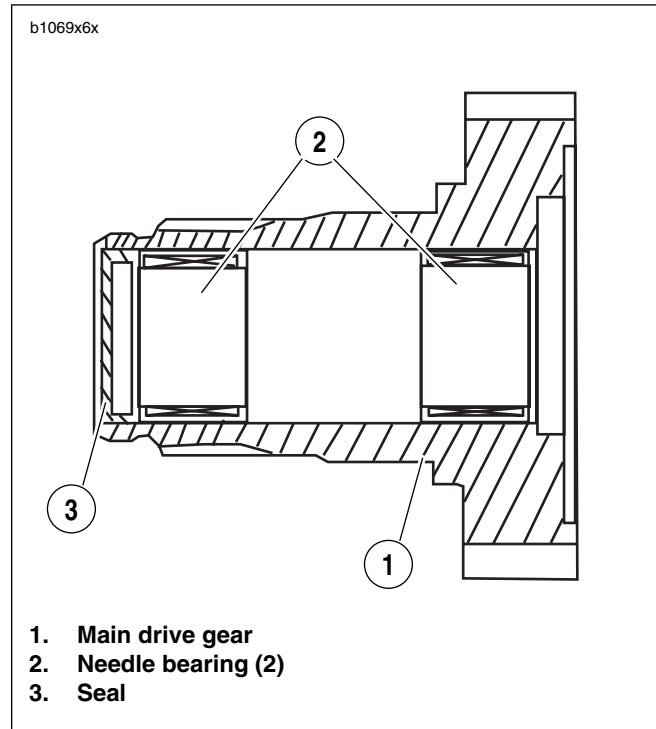

Figure 6-76. Main Drive Gear Assembly
4. See Figure 6-76. Tap in **new** seal (3) at threaded end of 5th gear to a depth of 0.060-0.030 in. (1.524-0.762 mm).